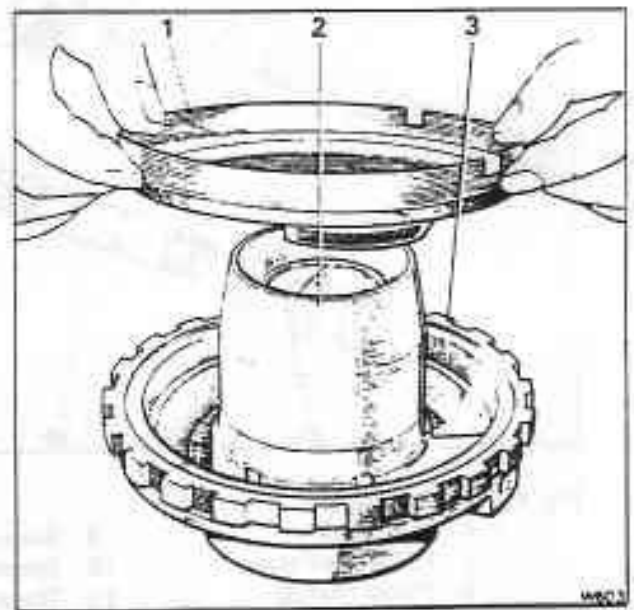

Fig. T19-7 Fitting the intermediate clutch piston
3. Fit the intermediate clutch piston (see fig. T19-7). Ensure that it seats fully in the centre support.